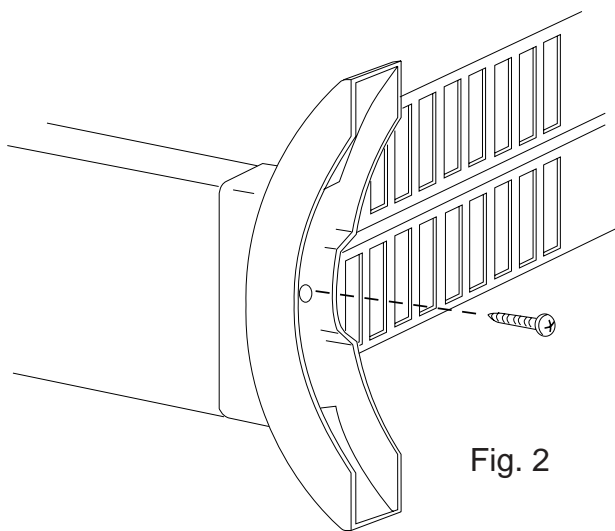

Fig. 2
- Fasten the feet in position using the screw (fig. 2).